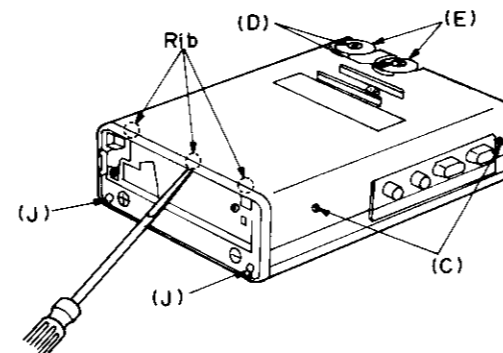

Fig. 2
3. Remove the screw (C) (1.4 × 2.5)mm × 2. (Fig. 2)
4. Remove the screw (D) (1.4 × 4.5)mm × 2. (Fig. 2)
5. Remove the knob (E) × 2. (Fig. 2)
6. Remove the rib with ⊖ screwdriver. (Fig. 2)